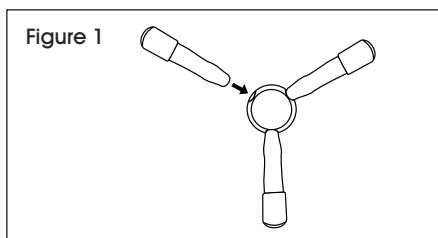

Figure 1
1. Screw three handle spokes into hub and hand tighten. Spokes are located in front foam packaging. (See Figure 1)